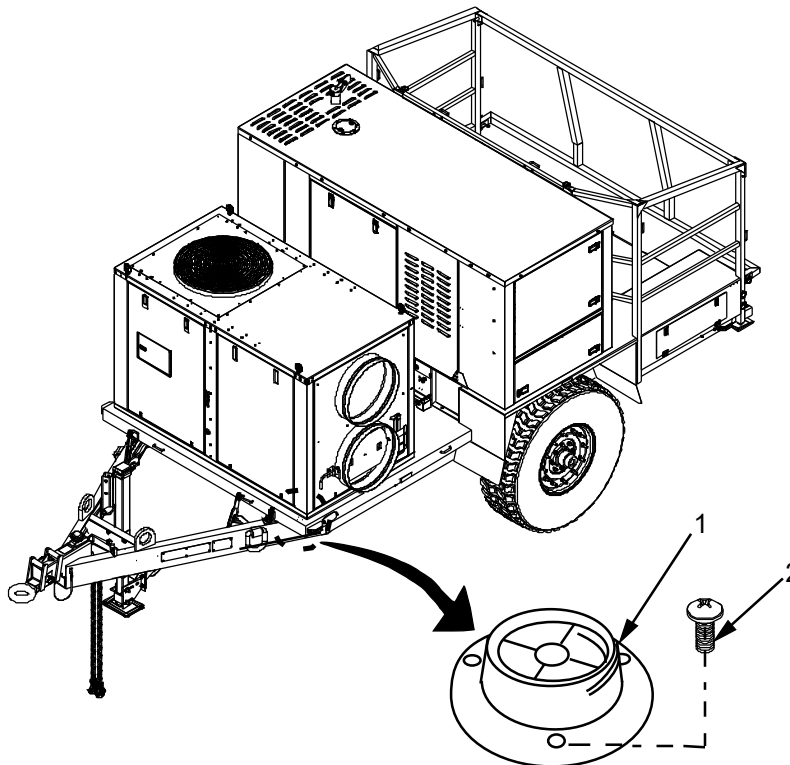

Figure 1. Trailer Level Removal/Replacement.
1. Remove and retain three screws (Figure 1, Item 2).
2. Remove and properly discard of level (Figure 1, Item 1).
1. Install level (Figure 1, Item 1) secure to trailer using three screws (Figure 1, Item 2).